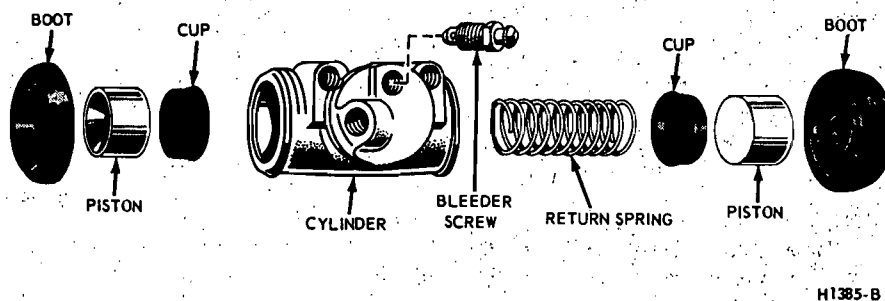

FIG. 12—Brake Wheel Cylinder—Typical
1. Remove the links and the rubber boots from the ends of the brake cylinder. Remove the pistons, cups, and return spring from the cylinder bore (Fig. 12).
3. Insert the return spring, cups, and pistons into their respective positions in the cylinder bore (Fig. 12).